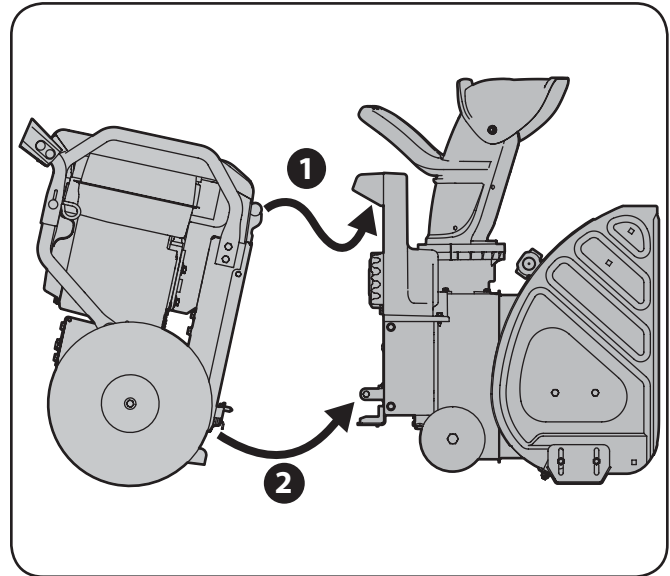

Figure 5-3
3. Once the top mount is engaged (1), and with both hands on the handle grips, tip the unit backwards somewhat swiftly to engage the bottom mounts (2). See Figure 5-3.